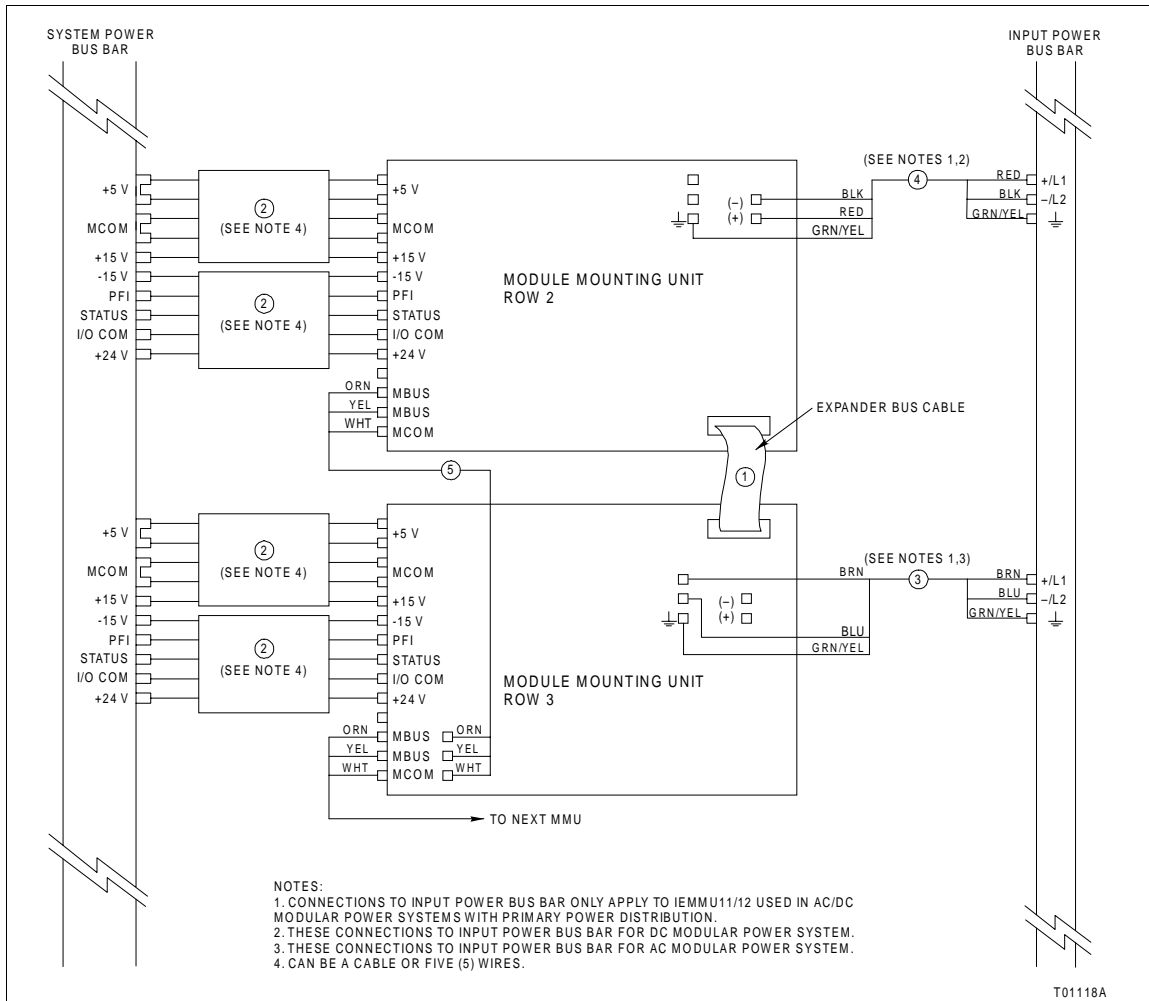

Figure 3-2. Module Mounting Unit Connections (Table 3-2)
NOTE: The cable inserter is not needed if using individual wires for connecting power, PFI, and module status (Fig. 3-2).
Table 3-2 and Figure 3-2 provide connection information for systems using an AC modular power system, a DC modular power system, and Modular Power System II.
3. Use expander bus interconnect cable (Fig. 3-2). Install the cable onto the transition board by positioning the two locating pins on the cable into the holes on the transition board.
Table 3-2. MMU Cables (Fig. 3-2)